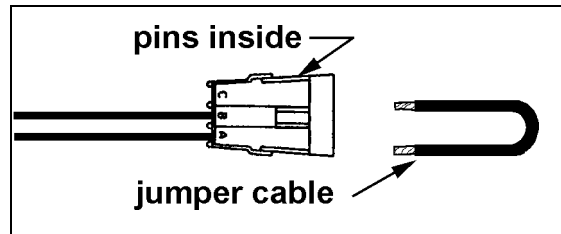

Figure 15 : connector C159
2. Open the R.H. side door of motor compartment. Locate connector C159 under the compressor support. Disconnect C159 and jump the pins A & B inside the connector (figure 15). Condenser fans should be running on second speed. If not, check your installation circuitry.